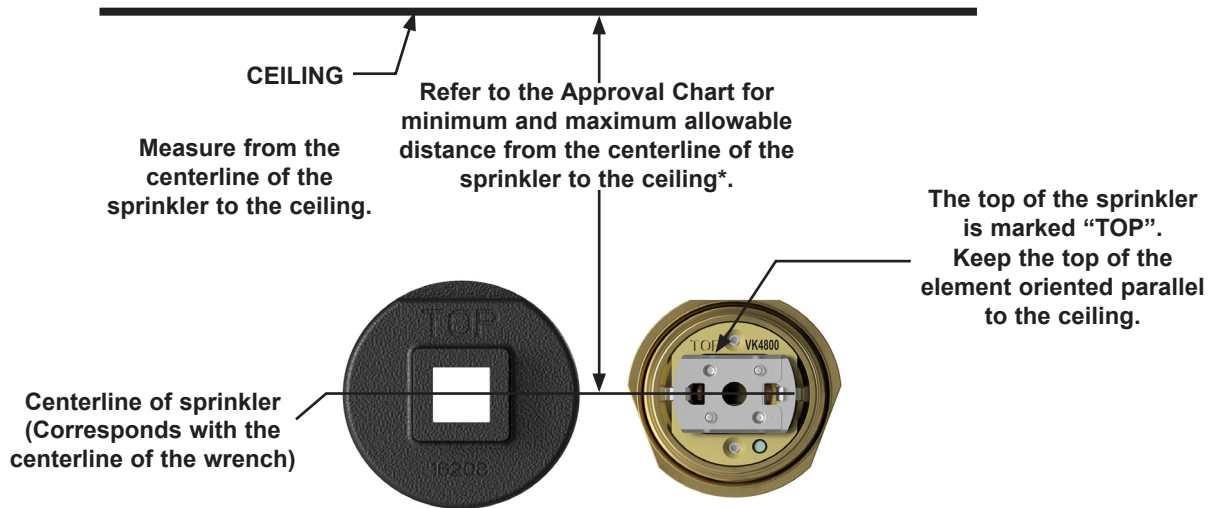

Figure 3: Sprinkler VK4800 Correct Deflector Orientation
- **THE TOP OF THE SPRINKLER BODY AND THE TOP OF THE INSTALLATION WRENCH ARE MARKED “TOP”.** Orient the top of the sprinkler element parallel with the ceiling as shown in Figure 3.